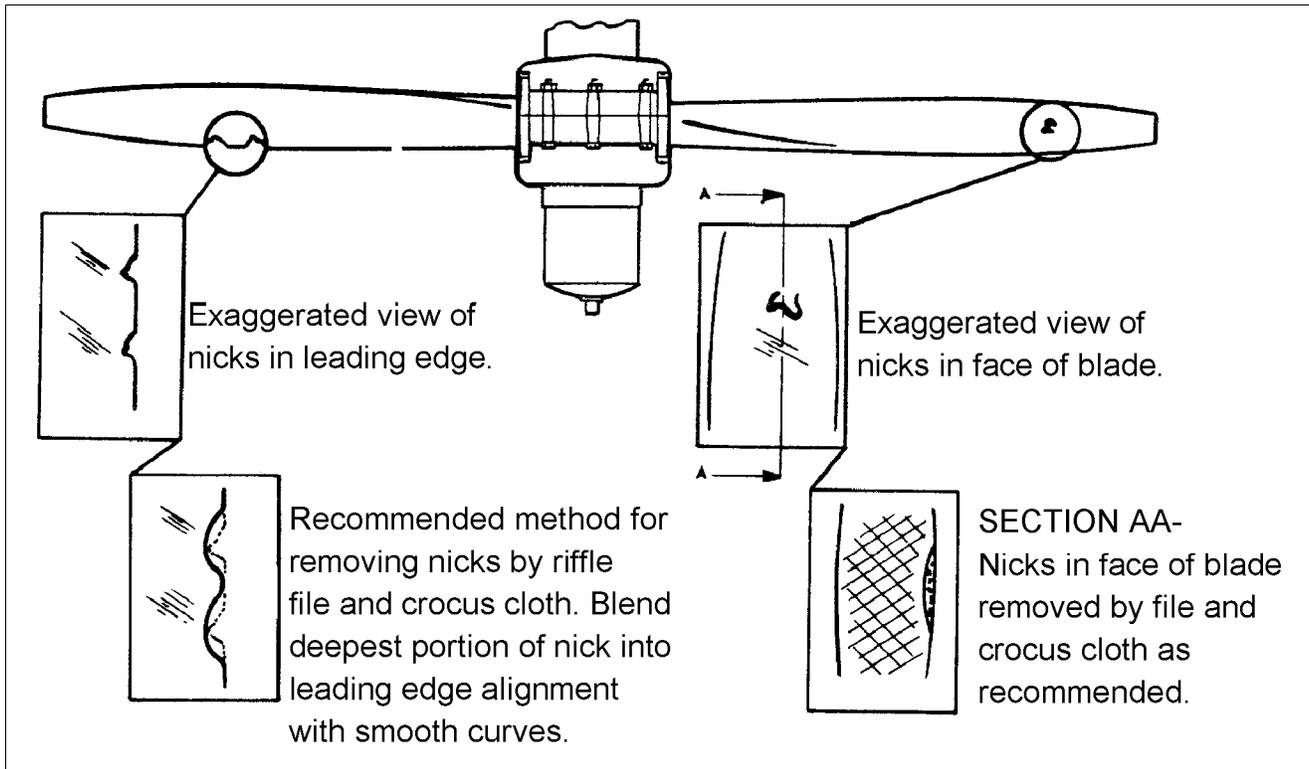

Figure 61-1. Typical Nicks and Removal Method
- g. Inspect blades for damage or cracks. Nicks in leading edges of blades should be filed out and all edges rounded, as cracks sometimes start from such places. Use fine emery cloth for finishing. Refer to Figure 61-1 for propeller blade care.